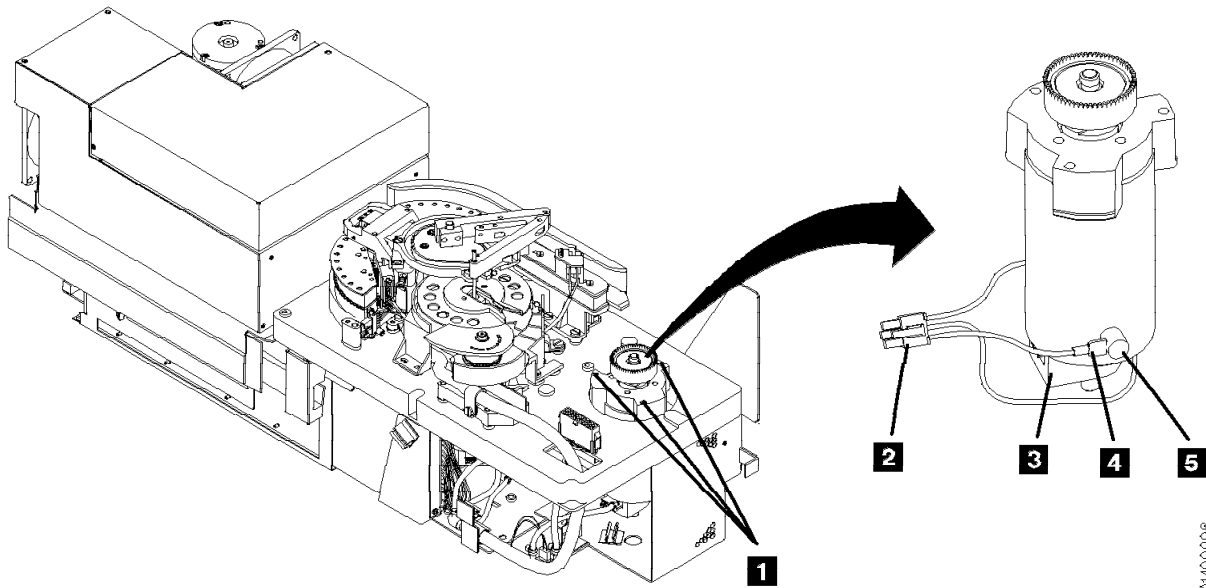

Figure 336. File Reel Motor
6. See Figure 336. Disconnect connector MT1 **2**.